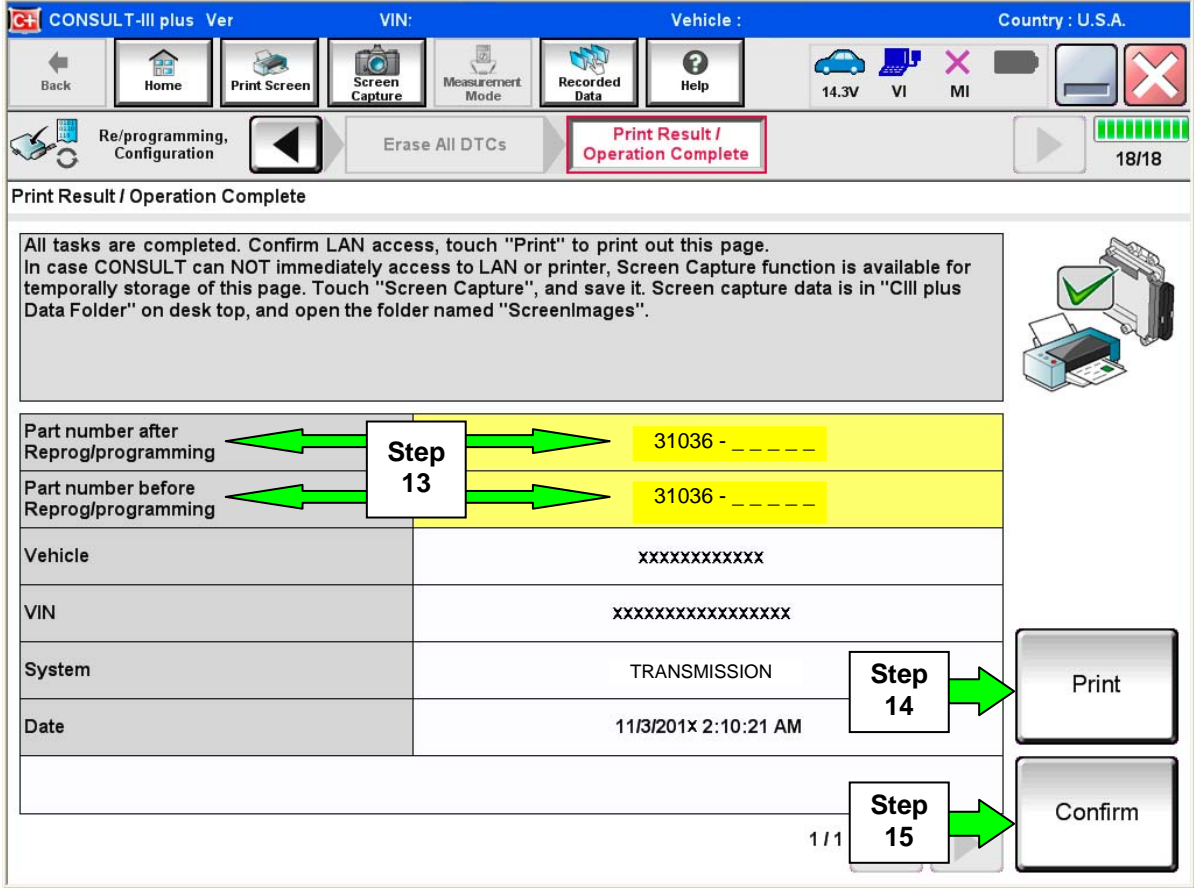

Figure 19
- 12. When the entire reprogramming process is complete, the screen in Figure 19 will display.
- 14. Print a copy of this screen (Figure 19) and attach it to the repair order for warranty documentation.